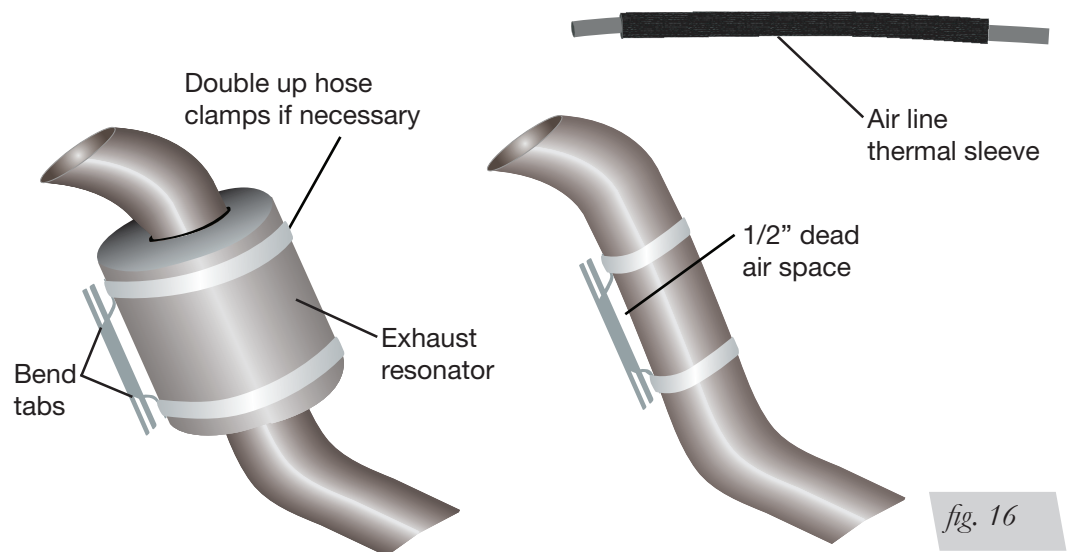

fig. 16
1. Attach the metal heat shield to the exhaust where it is closest to the air spring. Slide the air line thermal sleeve over the air line and place it where the air line is closest to the exhaust (Fig. 16).